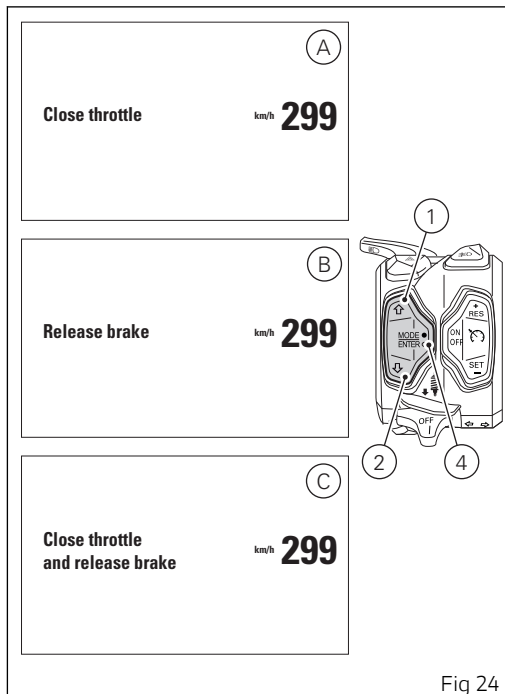

Fig 24
- if throttle is "open" the instrument panel activates the "CLOSE THROTTLE" (A, Fig 24) indication; only when throttle is "closed" the new selected riding mode is confirmed and memorised, and the instrument panel goes back to "standard page" displaying;
- if throttle is "closed" but brakes are operated, the instrument panel activates the "RELEASE BRAKES" (B, Fig 24) indication and only when brakes are released the new selected riding mode is confirmed and memorised, and the instrument panel goes back to standard page displaying;
- if throttle is "open" or if brakes are operated and vehicle is moving, the instrument panel shows "CLOSE THROTTLE AND RELEASE BRAKES" (C, Fig 24) and, only after all conditions are met (closed throttle and brakes released or vehicle stopped) the instrument panel confirms and memorises the new selected riding mode and goes back to "standard page" displaying.